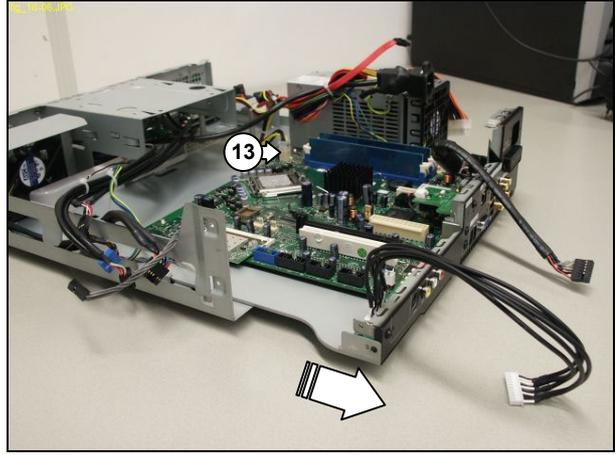

Figure 12.15-6
20. Slide the motherboard subassembly towards the rear of the chassis. See Figure 12.15-6.
21. Disconnect the PSU +12V cable (13) from the motherboard. See Figure 12.15-6.